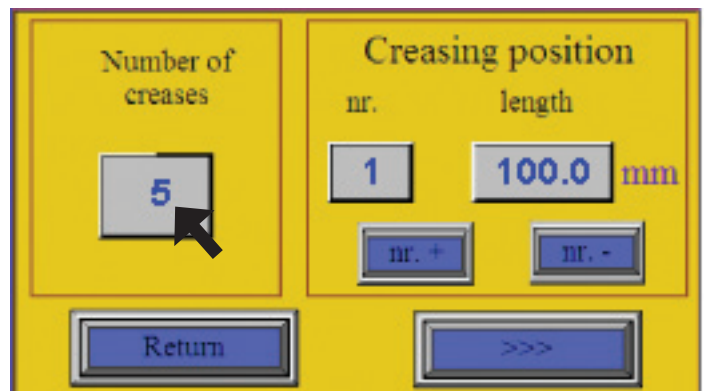

Fig. 7: Number of creases / perforations
1. Pressing the numeric icon under "Number of creases" will display the numeric keypad. Key in the number of creases/perforations needed. The program allows up to 15 creases/perforations to be set. Confirm the number of segments by pressing the "Enter" key. The number of creases/perforations is now set (fig. 7).